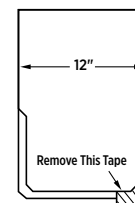

Figure 16-15:
5. Before nailing, be sure to remove the protective tape from the sealant between the cap's two layers (see Figure 16-15).